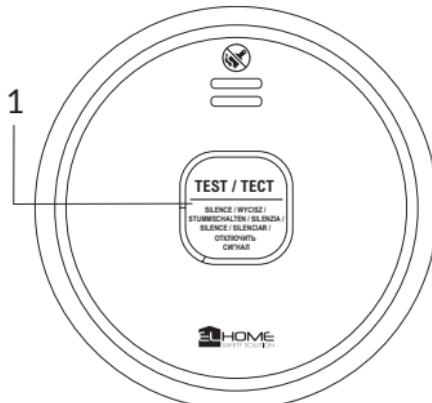

Fig. 5
6.3. Test the device by pressing the button on the housing (Fig. 5, item 1) for approximately 3 seconds. After hearing the intermittent acoustic alarm, release the button. A series of intermittent sounds indicates the device is functioning correctly.